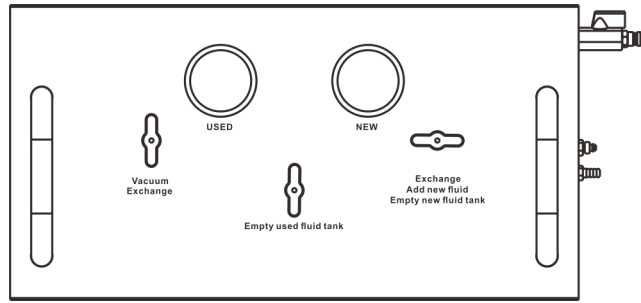

Fig.14
1. Open “Exchange/Add new fluid/Empty fluid tank” panel valve; (Fig.14)